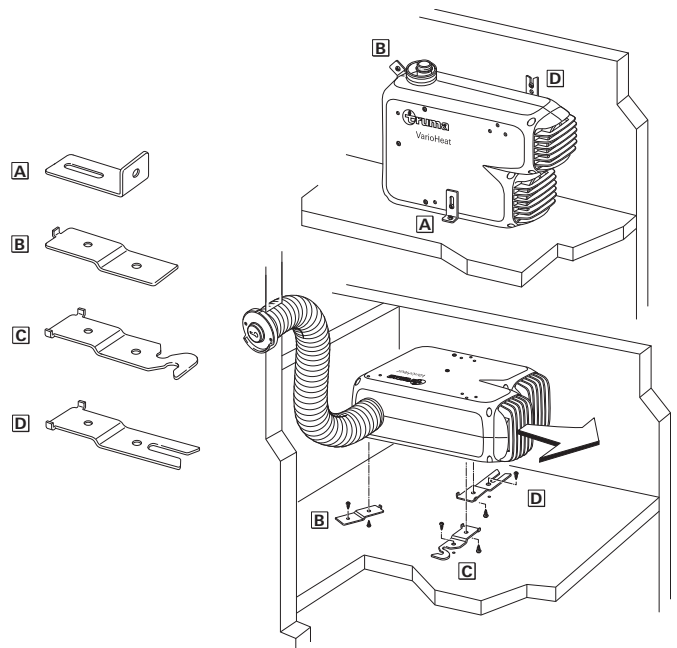

Figure 12
Secure the ducts with a clamp (15) every 50 cm (Figure 12).